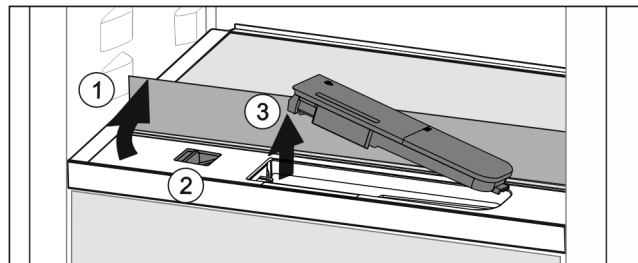

Fig. 105
- ▶ Lift the glass panel and fold to the back as far as it will go Fig. 105 (1).
- ▶ Slide the slider Fig. 105 (2) to the left.
- ▶ Remove the water tank Fig. 105 (3).